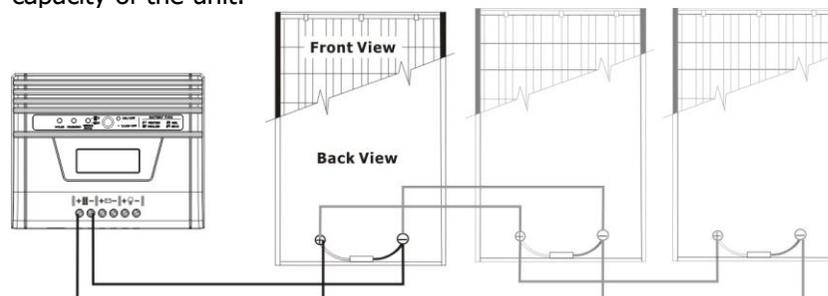

Fig. 9
**3) Multiple solar modules in parallel connection (Refer to Fig. 9):** Each module's voltage must not exceed the maximum solar module open circuit voltage. And, the sum of their solar power must not exceed the maximum capacity of the unit.